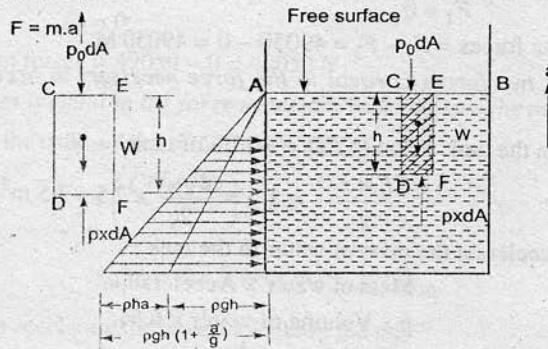

Fig. 3.49
3.8.2 Liquid Container Subjected to Constant Vertical Acceleration. Fig. 3.49 shows a tank containing a liquid and the tank is moving vertically upward with a constant acceleration. The liquid in the tank will be subjected to the same vertical acceleration. To obtain the expression for the pressure at any point in the liquid mass subjected to vertical upward acceleration, consider a vertical elementary prism of liquid CDFE.
The Fig. 3.49 shows the variation of pressure for the liquid mass subjected to a constant vertical upward acceleration.